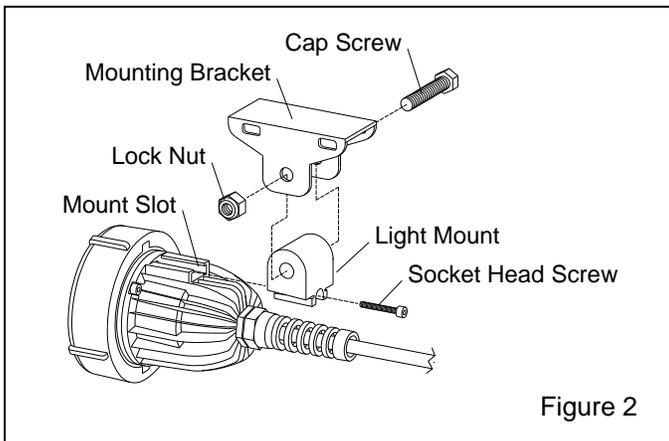

Figure 2
**2.1 Assemble Mount to Light Assembly Refer to Figure 2**
NOTE: The lens housing must be removed to access any serviceable items within the light assembly. Service is easier if the light assembly is removed from the blast hose, one suggestion is to remove the cap screw and lock nut from the mounting bracket as shown in Figure 2.